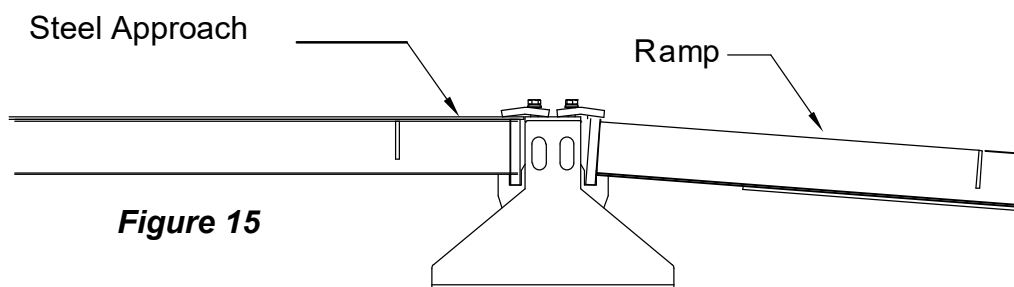

Figure 15
7. Set the ramps end plate into the approach bulkhead's saddle. See *Figure 15* in step 5.